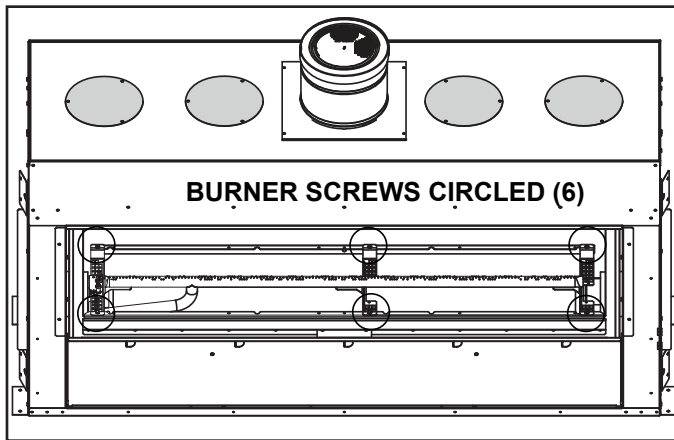

Figure 9.4 Location of Burner Screws
12. Remove the six screws securing the burner to the firebox sides and disengage burner from orifice. Remove burner. See Figure 9.4.